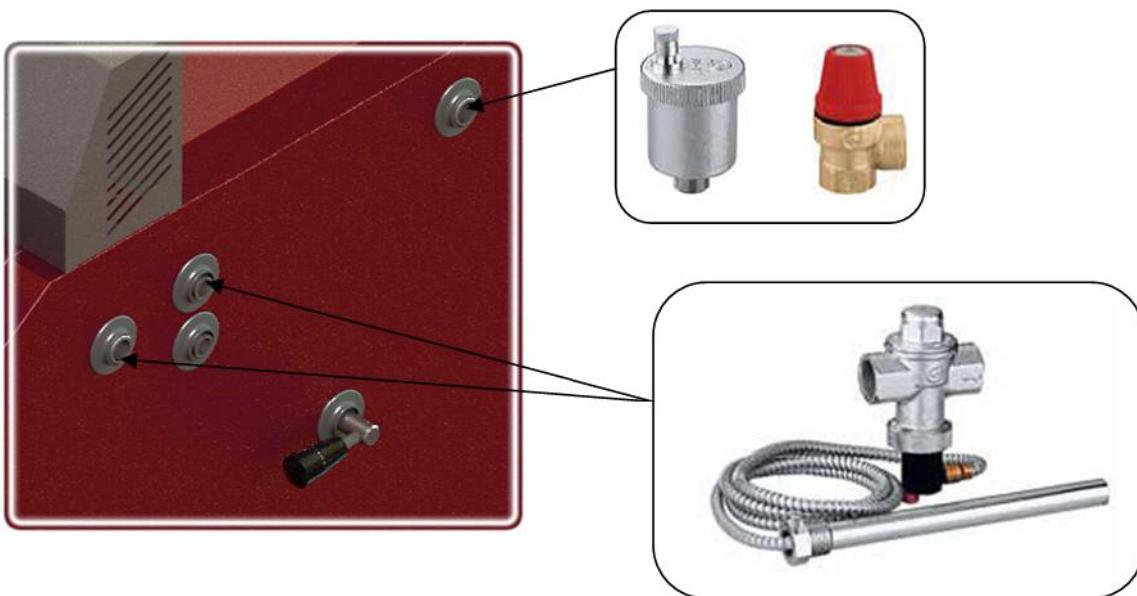

Figure 4. Installation of safety elements
- Place the installation is shown in the Assembly diagram of boiler onto the installation in Figure 4
The boiler is supplied with a copper coil so it is necessary to use the VTO with the exchanger, as shown in Figure 4. Cold sanitary water is brought to the VTO. When the VTO-probe has the information that the temperature is over 95 degrees the VTO is opened and water flows through copper coil. After some time the temperature of water in boiler returns to its normal state.